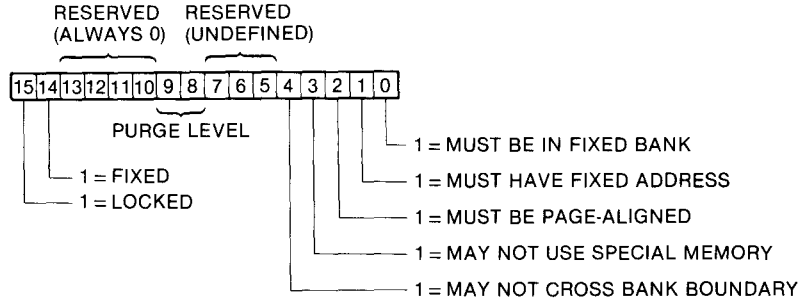

Figure 7-1
When a program asks for a block of memory, it must pass to the Memory Manager a list of attributes that it wants to assign to the block. These attributes are passed in the form of a word. This is shown in figure 7-1 and is examined more closely later in this chapter. When a group of attributes is assigned to a block of memory, the Memory Manager takes them into account whenever it has to purge, allocate, deallocate, or compact memory.
- The block's attributes (1 word). A diagram of this word appears in figure 7-1. (An explanation of each bit is provided later in this chapter.)
The layout of a memory attributes word is shown in figure 7-1. In each bit position, a value of 1 means the attribute defined by the bit applies to the block. You might think of setting the bit to 1 as applying a restriction to the block.